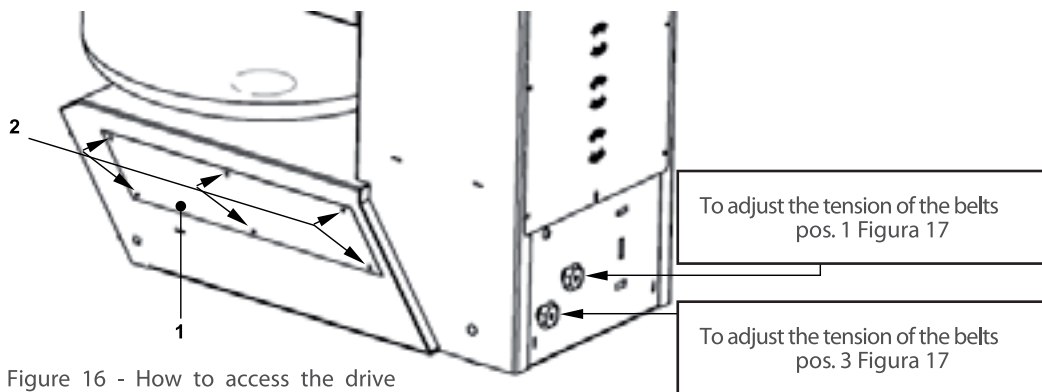

Figure 16 - How to access the drive belts to the bowl
To carry out the operations described in this paragraph and in the relevant sub-paragraphs, always wear at least safety gloves, safety shoes with reinforced toe and a helmet. Look at Figure 16, to access the belts simply remove the guard in pos. 1 secured with six screws pos. 2 on each side of the stand. At the end of the works, fit the covers Pos. 1 back on and secure with the original hardware.